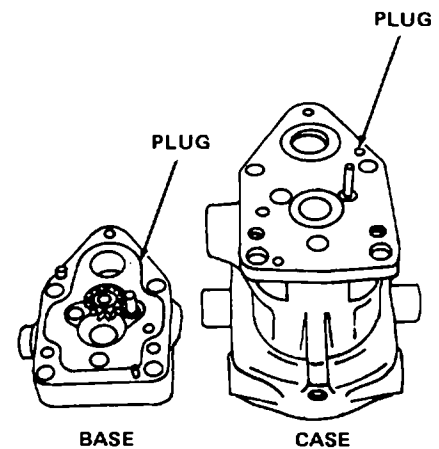

Figure 11-13. Plugs Inserted in Governor
(7) Insert directional plugs (77, figure 11-5) and packings (78) as shown in figure 11-13.